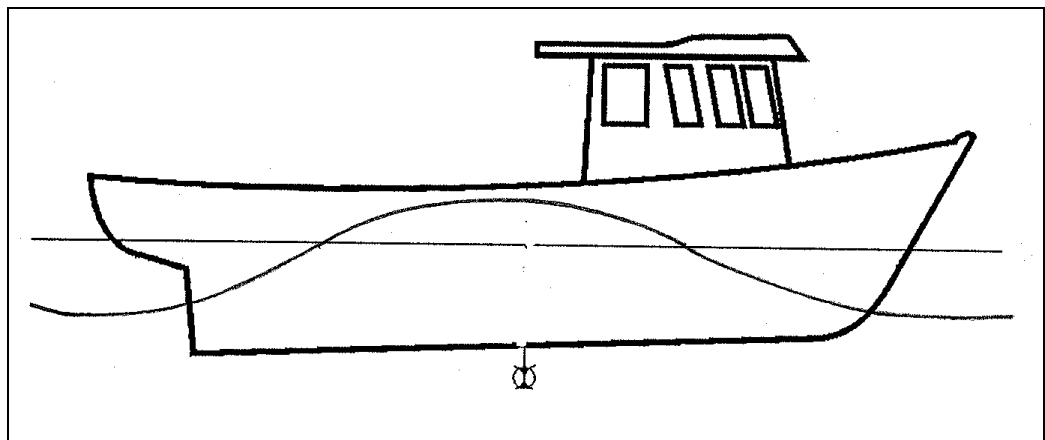

Figure 2.12 Vessel riding a wave crest
4. If the waves create a waterline as shown in figure 2.12, the vessel will suffer a great loss of stability. In some cases, the loss of stability may be enough to capsize the vessel. This situation is particularly dangerous in following seas because the wave crest may remain near the middle of the vessel for a long time. In such cases you should immediately alter course and/or change speed.